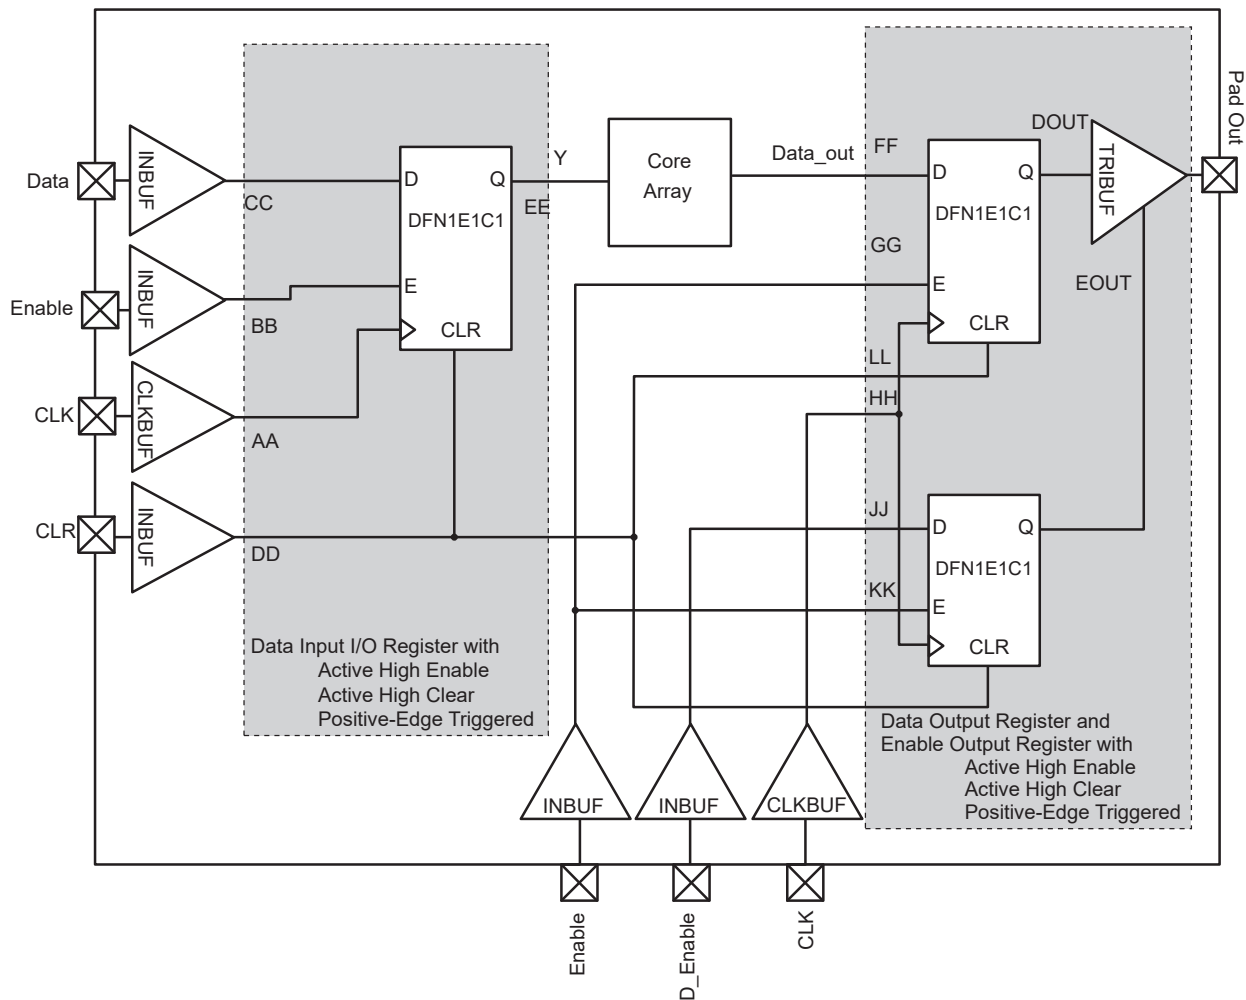

Figure 2-26 • Timing Model of the Registered I/O Buffers with Synchronous Enable and Asynchronous Clear
*Note:* \*See Figure 2-26 on page 2-57 for more information.